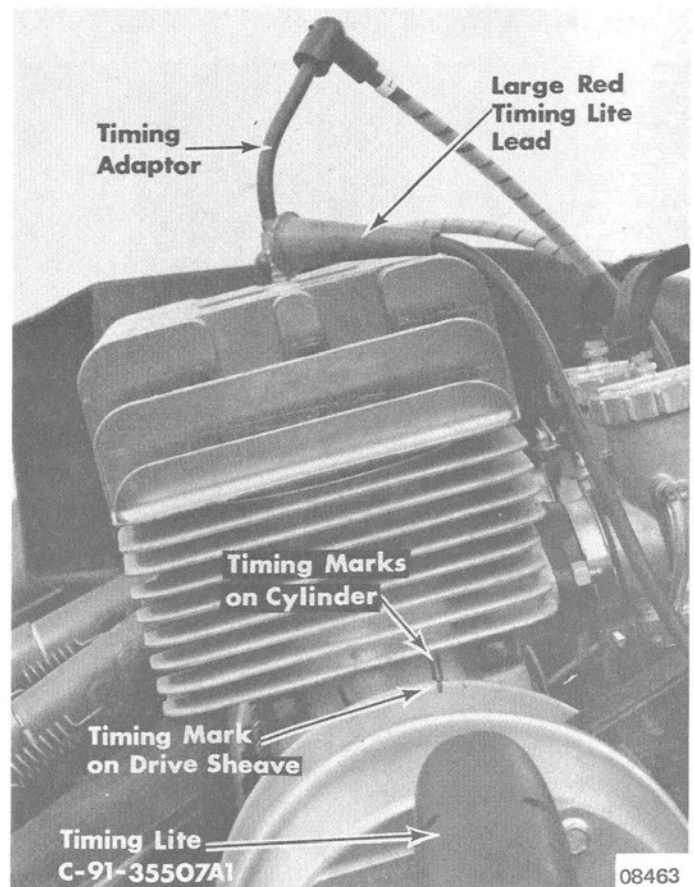

Figure 3. Checking Ignition Timing
- a. Insert timing adaptor (Figure 3) between No. 1 (PTO side) spark plug and No. 1 spark plug wire.
- b. Connect large red timing lite lead to timing adaptor. (Figure 3)
- 10 Aim timing lite at timing marks made on cylinder and fixed face of drive sheave. (Figure 3)
11. With engine running at 3000 RPM, timing mark on drive sheave should be aligned with timing mark made on cylinder. (Figure 3)